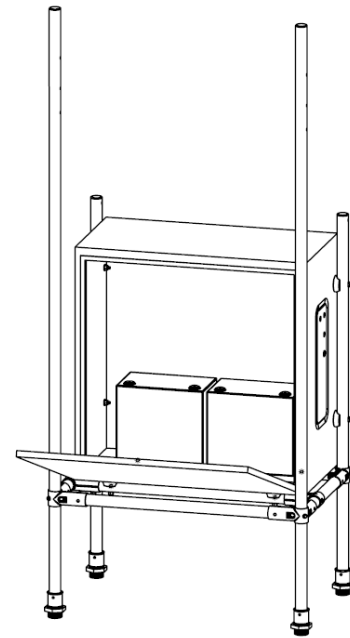

FIGURE 14
12. Place the two batteries into the battery enclosure as shown. Fasten the batteries in position. Do not connect electrical leads to batteries at this time (**FIGURE 14**).
18. The LiFePO₄ batteries inside of the battery enclosure (**FIGURE 14**) are (2X) 12VDC batteries that are to be wired in series to produce a combined output of 24VDC. This involved connecting a jumper connection between the red terminal of the 1st battery to the black terminal of the 2nd battery. Connect the single unconnected red wire from the Controller block to the open red terminal of the batteries. Connect the single unconnected black wire from the Controller block to the open black terminal of the batteries.